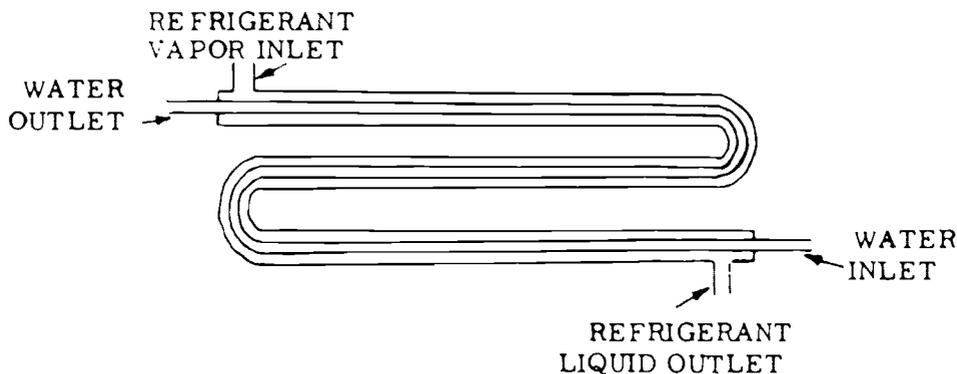

Figure 10 Double Tube Water Cooled Condenser
**DOUBLE TUBE CONDENSER** The double tube condenser is a tube within a tube. (See figure 10 ) The refrigerant is between the inner and outer tube. The water flows in the opposite direction in the inner tube. This counterflow action gives high efficiency. The water used must be clean and free of minerals as the internal cleaning of the condenser must be by chemicals circulated in the water.